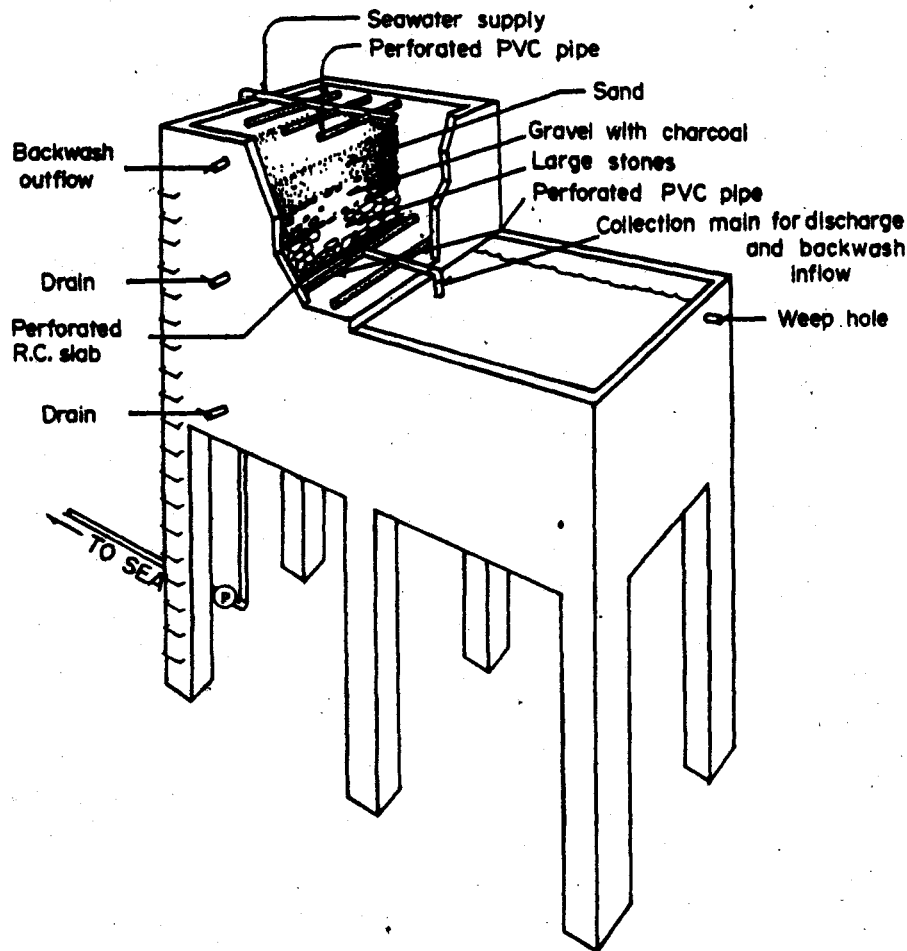

Fig. 2. Elevated seawater reservoir with cut-out diagram of its sand filter.
**Seawater Storage Tank** A seawater tank with a capacity of at least 50% of the total volume of culture tanks is recommended. Storage tank should be elevated so that filtered seawater can be distributed to all tanks by gravity flow (Fig. 2).